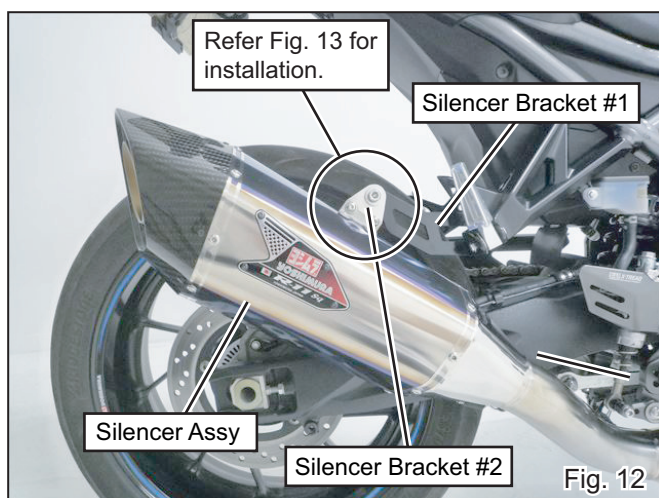

Fig. 12
10) Install Silencer Assy to vehicle by connecting Silencer Bracket #1 and Silencer Bracket #2 by using Cap Bolt M8x30, Washer M8x20, Washer M8x26 and Flange Nut M8 (See Fig. 12, 13).